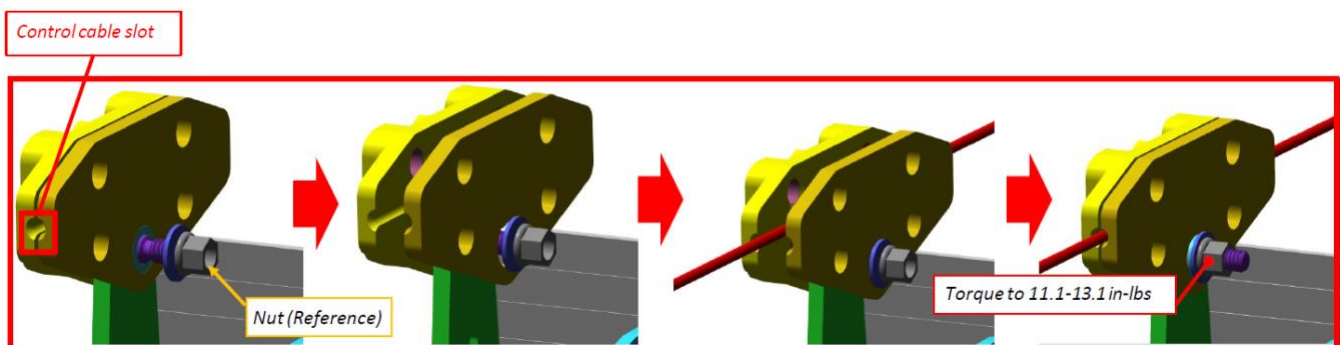

Figure 31 Roll Cable Clamp
25. Loosen the nut from the cable clamps on the roll servo subassembly and slide the cable clamps apart from each other (see Figure 31).